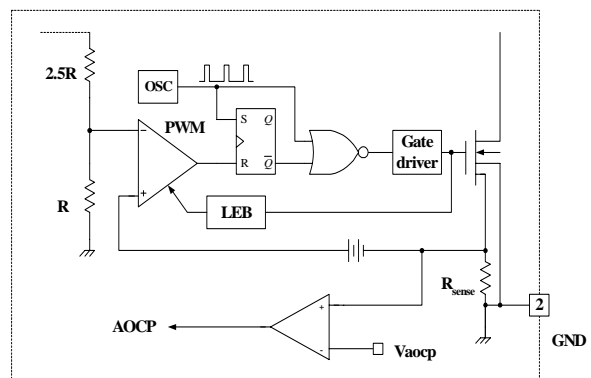

Figure 11. AOCP block
3. Feedback Control : FSCQ1565RP employs current mode control, as shown in Figure 11. An opto-coupler (such as the H11A817A) and shunt regulator (such as the KA431) are typically used to implement the feedback network. Comparing the feedback voltage with the voltage across the R_{sense} resistor plus an offset voltage makes it possible to control the switching duty cycle. When the reference pin voltage of the KA431 exceeds the internal reference voltage of 2.5V, the H11A817A LED current increases, thus pulling down the feedback voltage and reducing the duty cycle. This event typically happens when the input voltage is increased or the output load is decreased.
3.1 Pulse-by-pulse current limit: Because current mode control is employed, the peak current through the Sense FET is limited by the inverting input of PWM comparator (Vfb*) as shown in Figure 11. The feedback current (I_{FB}) and internal resistors are designed so that the maximum cathode voltage of diode D₂ is about 2.8V, which occurs when all I_{FB} flows through the internal resistors. Since D₁ is blocked when the feedback voltage (Vfb) exceeds 2.8V, the maximum voltage of the cathode of D₂ is clamped at this voltage, thus clamping Vfb*. Therefore, the peak value of the current through the Sense FET is limited.